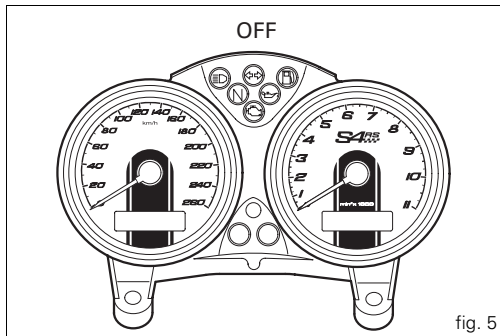
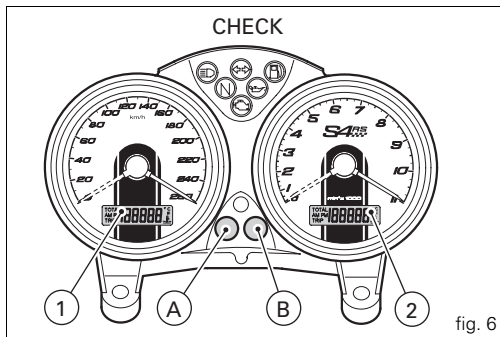

fig. 5
fig. 6
When the key is turned from **OFF** to **ON**, the instrument panel runs a **check** on all instruments (pointers, display, lights) (fig. 5 and fig. 6).
By pressing button (B, fig. 6) with the key turned to **ON**, you can cycle between display of the trip counter and the odometer and, if the fuel level warning light is on, the fuel reserve trip counter.
If button (B, fig. 6) is held pressed for more than 2 seconds while the **TRIP** (trip meter) is active, the display is reset (LCD 1).
Press button (A, fig. 6) with the key turned to **ON** to display the clock and coolant temperature.
Press button (B, fig. 6) for at least 2 seconds and the time will be shown on display (2, fig. 6).
To select **AM/PM**, press button (B, fig. 6). Press button (B) to select the hour setting function. Press (A) repeatedly to change the hour indication. Press button (B, fig. 6) to enter the minutes setting mode.
When the fuel level warning light illuminates the word “**FUEL**” appears on display (2, fig. 6) and the fuel reserve trip counter function will be activated and indicate on display (1, fig. 6) the number of kilometres travelled in reserve preceded by the letter “F” (FUEL).
The “**MAInt**” message on display (1, fig. 6) indicates that the service interval has been reached: it will be displayed for 5 seconds each time the ignition is switched on. When the “**MAInt**” message is displayed, contact an authorised dealer or service centre.
Press button (B, fig. 6) within 5 seconds after the ignition key is turned to the **ON** position to adjust the brightness of the backlight. The brightness changes at each press of the button.